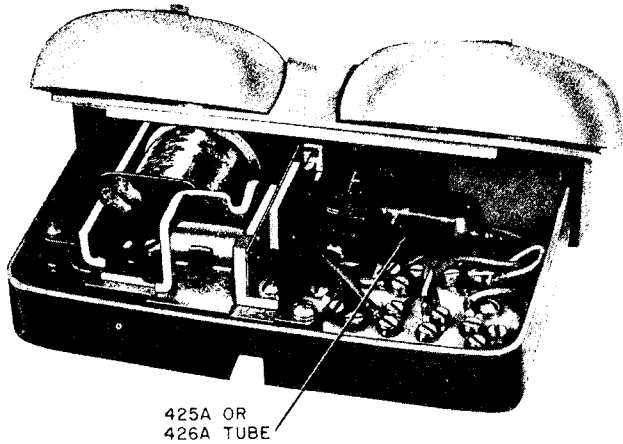

Fig. 3 — L1A Ringer with 425A or 426A Tube
**2.02** The ringer has mounting facilities and space provided for the installation of a 425A or 426A electron tube (Fig. 3). The tubes are used for selective multiparty line ringing or when there is evidence of inductive interference (Table A). For the maintenance and mounting instructions of these tubes, refer to the section entitled Electron Tubes.